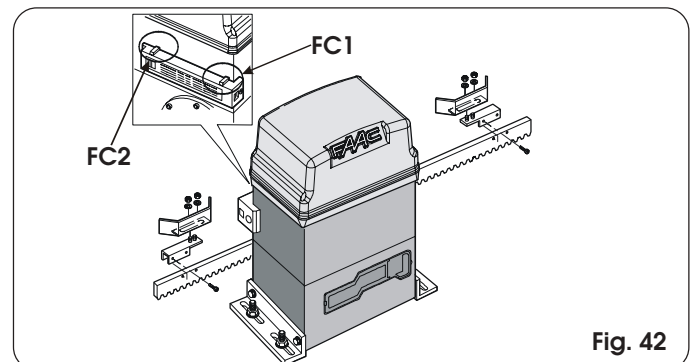

**Fig. 41**
Operator 844 has a limit sensor switch which, by detecting the transit of a reference applied to the rack, commands the gate motor to stop. The device can be MLS (fig. 41) or inductive (fig. 42).
- 10) Clean the rack on its fitting points, remove the film on the adhesive parts of the magnets (fig. 41 ref. 1) and re-position the magnets with the adhesive strip in contact with the rack (fig. 41 ref. 2).